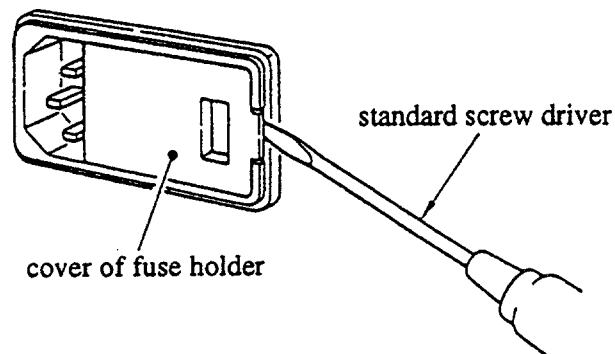

Fig. 4.6 Opening the fuse holder cover
- (1) Turn OFF the power.
- (2) Remove the power cord from the power connector.
- (3) Use a standard screwdriver to open the cover on the fuse holder, as shown in Figure 4.6.